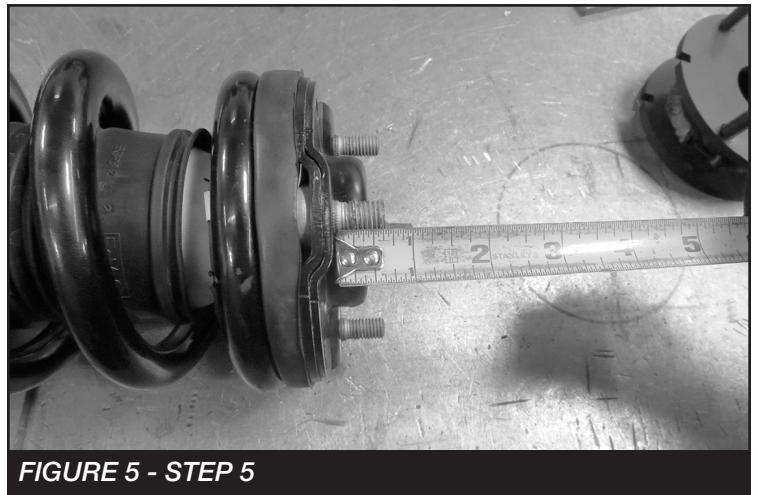

FIGURE 5 - STEP 5
5. On the top mount. Measure 5/8" from the base of the stud and using a cut off wheel, cut the excess thread off. **SEE FIGURE 5**